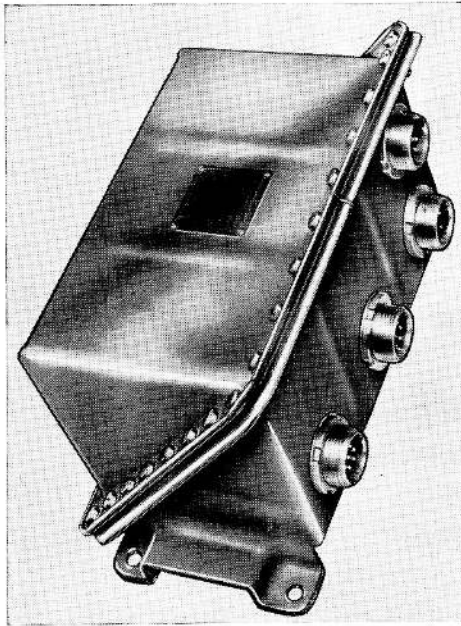

Fig. 1. Relay box, Type D2790
2. The relay box, shown in fig. 1, is hermetically sealed and comprises two light alloy pressings, similar in size and shape, the top half serving as a lid to the base which is secured to the aircraft. The mounting brackets are fitted to the bottom half of the box and are drilled to take $\frac{1}{4}$ in. dia. fixing bolts. The two